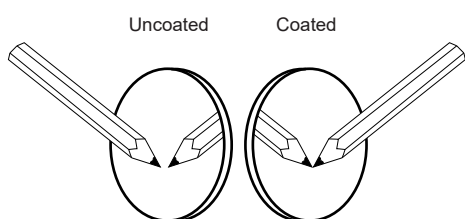

Figure 20: Locating coated side
- When there is no silver side, the identification can be made by holding an object (avoid using metallic or sharp-edged objects) close to the gobo, and checking which side shows a gap between the object and its reflection. The side showing no gap is the coated one (Figure 20).